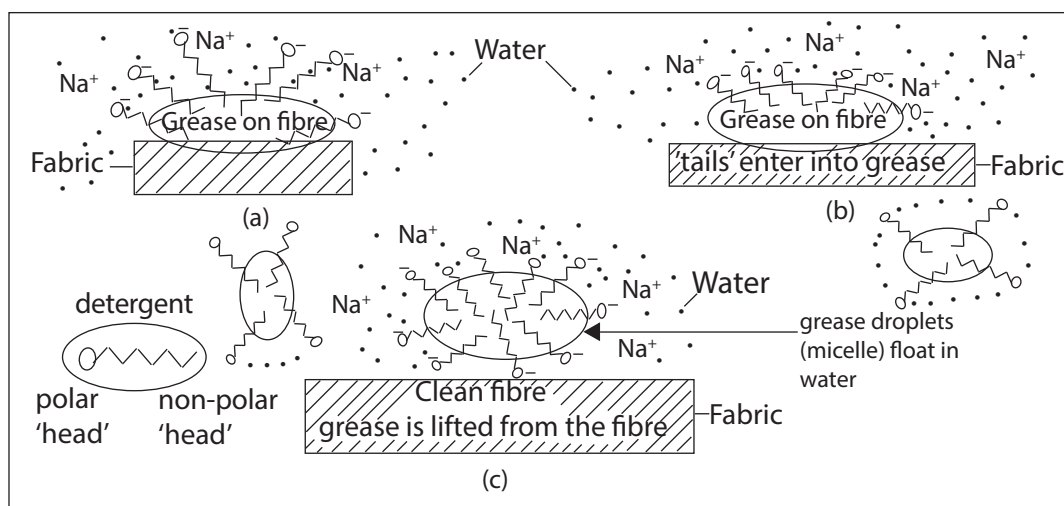

Fig. 6.8: How soap removes grease or oil from fabrics
We say that detergents reduce the water surface tension. This causes the water to spread out more easily as illustrated in Fig.6.8 below
2. When the solution is stirred or agitated, the grease is lifted from the cloth fibre and surrounded completely by soap anions as shown in Fig. 6.8(c) thereby removing the dirt from the clothes effectively.